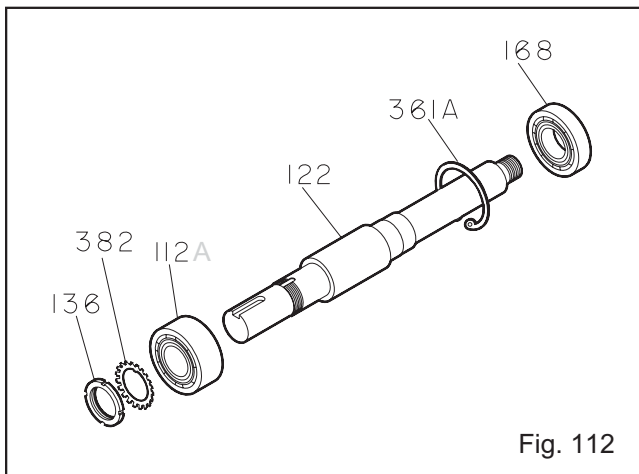

Fig. 112
2. Attach bearing frame foot (241) with bolts (370F). Hand tighten.
3. Install outboard bearing (112A) on shaft (122) (Fig. 112).